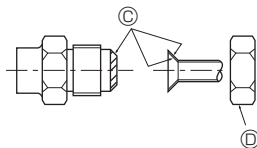

Fig. 4-1
4.2. Connecting pipes (Fig. 4-1)
- Apply thin layer of refrigerant oil to pipe and joint seating surface before tightening flare nut. ①
- Use 2 wrenches to tighten piping connections. ②
- Apply refrigerating machine oil over the entire flare seat surface. ③
- Use the flare nuts for the following pipe size. ④
Ⓐ (Fig. 4-1)
Ⓑ (Fig. 4-1)